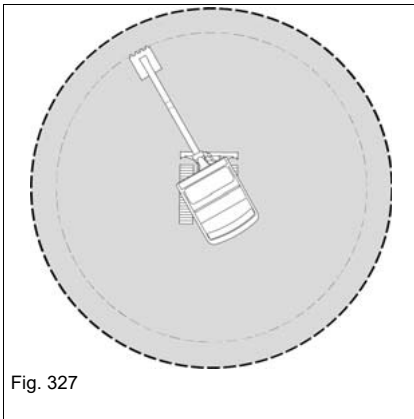

Fig. 327
- ▶ The boom must be straight towards the cab - see Fig. 327